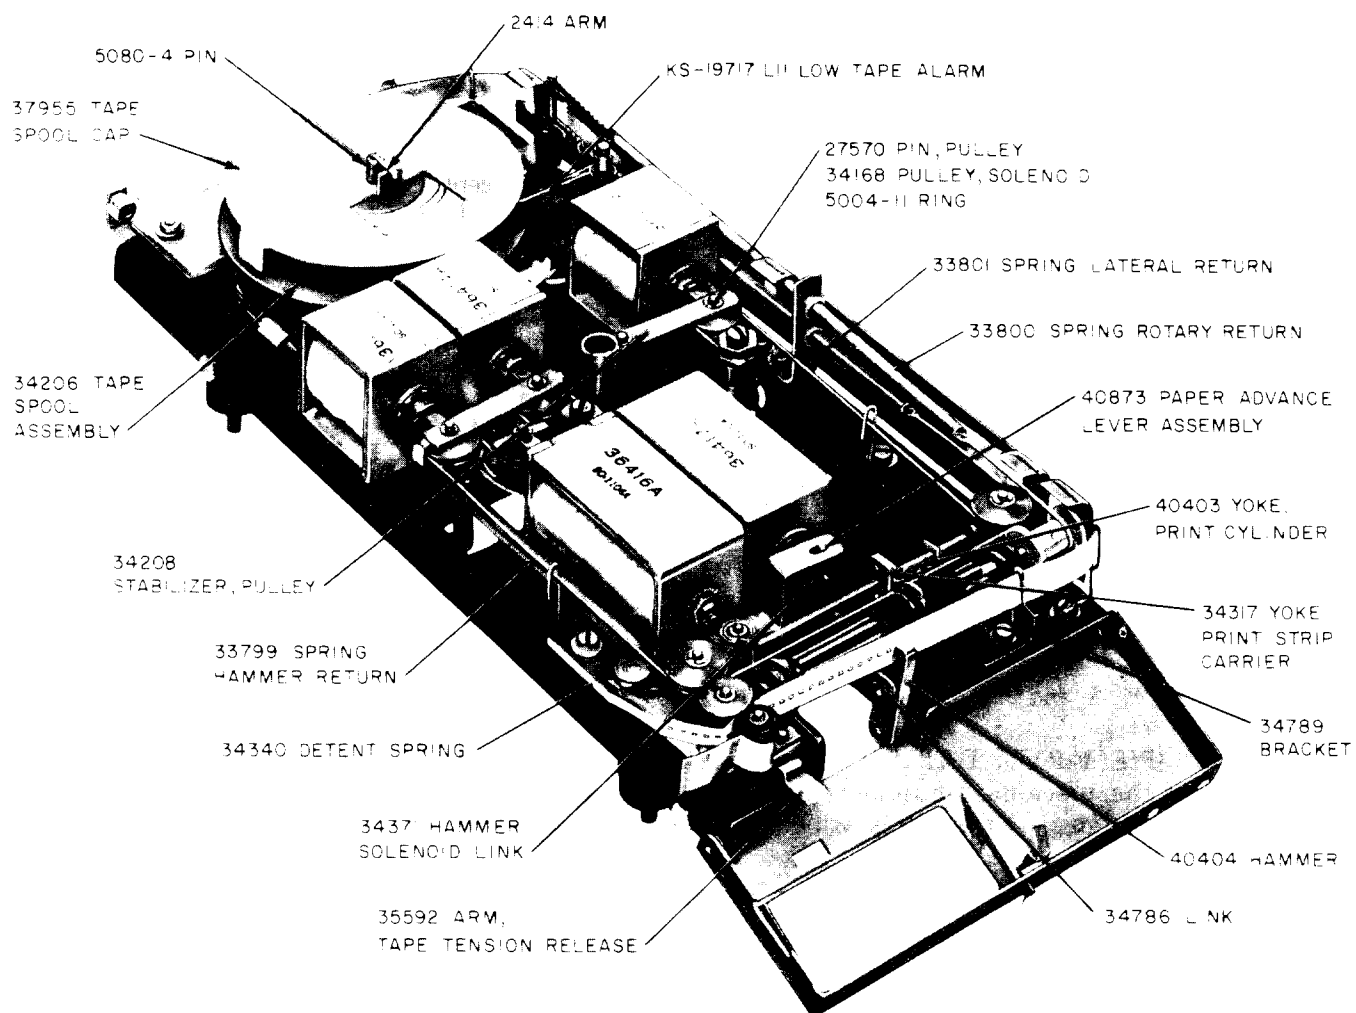

Fig. 1—KS-19717 L5 Tape Printer—Cover Removed
**2.01** Fig. 1 through 6 included in this part show the various piece parts in their proper relation to other parts of the tape printer. The piece-part numbers of the various parts are given with the names of the parts as assigned by the manufacturer.